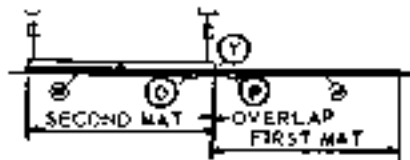

FIGURE B-16
To match mat (N) Figure B-16, already laid, the edge of screed (Y) is kept practically flush with surface of (N) preferable overlapping at an inch or two. This joint is therefore compacted, and the two mats are properly bound together.